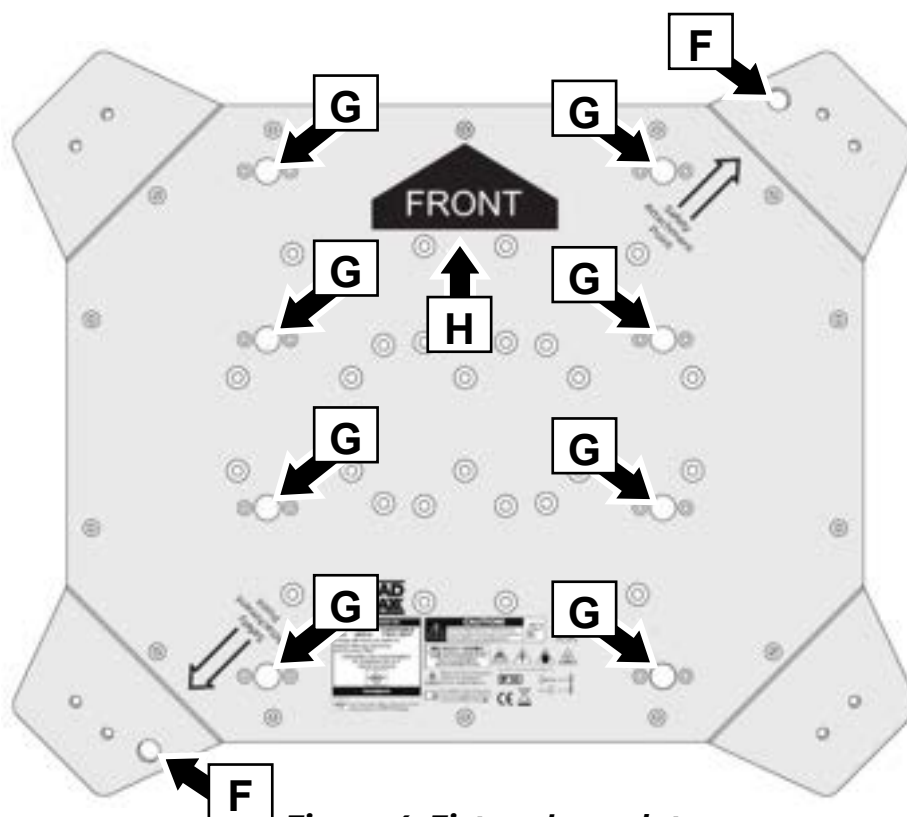

Figure 4. Fixture baseplate
3. Line up the camlock quarter-turn pins in each Truss Mount Bar with the camlock fastener points (see **G** in Figure 4) in the base of the fixture as shown in Figure 2 and turn the camlock locking levers a full 90° clockwise to lock the Bar to the fixture. Check that all camlock fasteners are securely fastened.
See Figure 4. An arrow **H** marked FRONT is printed on the baseplate. Install the fixture with this arrow pointing towards the stage or main target.
3. See Figure 4 on page 18. Fasten the chain or cable to one or both of the two 15 mm diameter safety chain attachment points **F** in the base of the fixture. If you use more than one chain or cable, use both attachment points. Ensure that shackles etc. are securely locked closed.